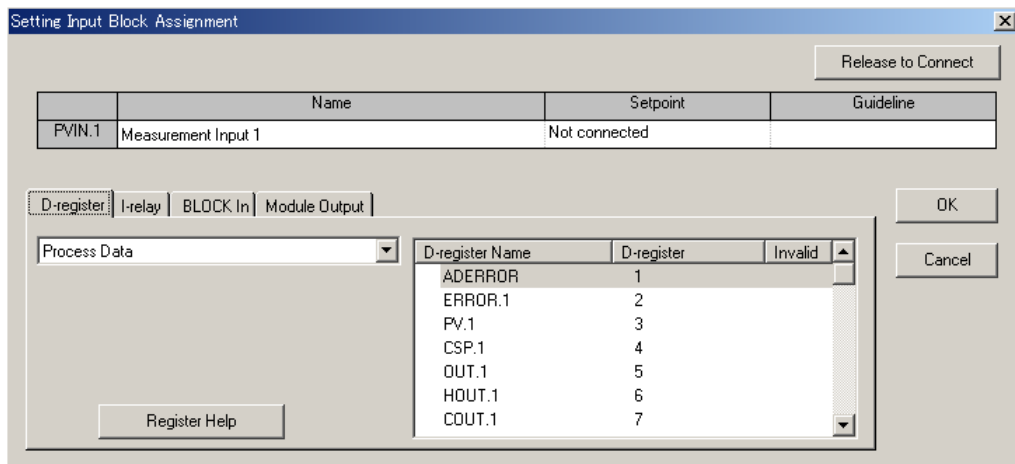

Figure 12.4.11 [Setting Input Block Assignment] Dialog Box
- (2) From the tool menus, choose <Edit [E]>, then <Connection>. The [Setting Input Block Assignment] dialog box (Figure 12.4.11) appears.